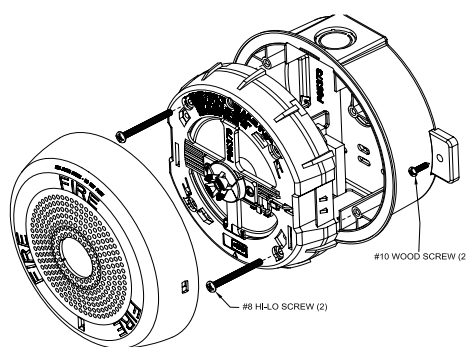
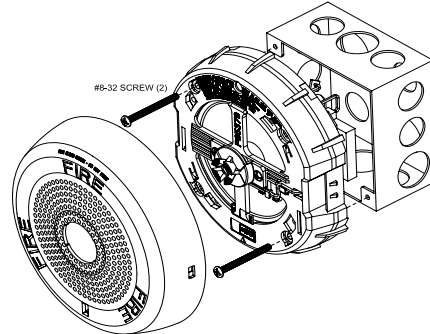

Figure 6: Ceiling Speaker or Speaker Strobe with Surface Mounting Box
Figure 7: Speaker or Speaker Strobe with 4" Backbox
**NOTE:** Speaker Strobe mounting are depicted in Figure 6 & 7. For non-strobe speaker surface mounting, use same surface box or backbox as depicted in Figure 6 and Figure 7.
**NOTE:** Surface backbox (LSPKBBxC) shown in Figure 7, is compatible with wiremold and conduit. Mounting holes are for single-gang, double-gang, and #10 wood screws for stud mounting. If metal conduit is installed onto top and bottom conduit entrances, then an insulated grounding wire (18 AWG, supplied) must be connected between the top and bottom plate by using thread cutting screws (supplied) to provide electrical continuity per UL 50.
7. All models can be flush mounted to a 4" square by 2-1/8" deep backbox in the wall, refer to Figure 7.
**WARNING:** A small possibility exists that the use of multiple strobes within a person's field of view, under certain circumstances, might induce a photo-sensitive response in persons with epilepsy. Strobe reflections in a glass or mirrored surface might also induce such a response. To minimize this possible hazard, Cooper Wheelock strongly recommends that the strobes installed should not present a composite flash rate in the field of view which exceeds five (5) hz at the operating voltage of the strobes. Cooper Wheelock also strongly recommends that the intensity and composite flash rate of installed strobes comply with levels established by applicable laws, standards, regulations, codes and guidelines.